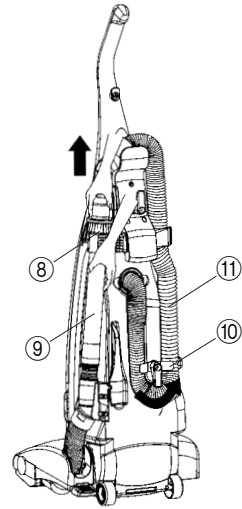

Fig.10
HOW TO USE TOOLS (Fig. 10, 11, 12)
2. Hold the dusting brush (8) and the extension pipe (9) as shown in Fig.10, and disconnect the dusting brush from the extension pipe.
3. Turn the hose storage hook (10) counter clockwise, and remove the flexible hose (11) from the back of the cleaner.
NOTE: The extension pipes should be re-inserted as shown in Fig.10.